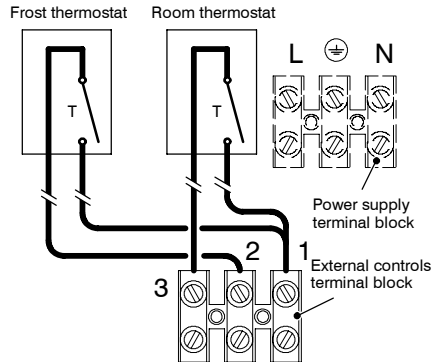

Fig. 6.19
- 10 Connect the frost thermostat between terminals 1 and 2 as shown in Fig. 6.19.